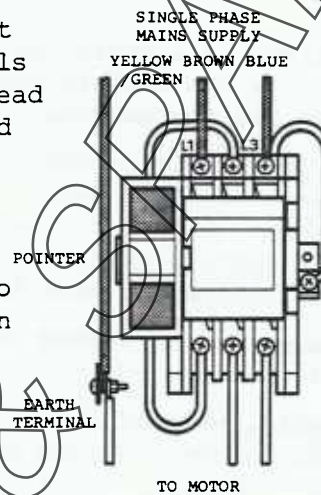

Fig.1.
**FOR SINGLE PHASE SUPPLY,** connect two supply leads to top terminals L1 & L3 of contactor an earth lead (yellow/green) must be connected to earth terminal of starter (See Fig.1).